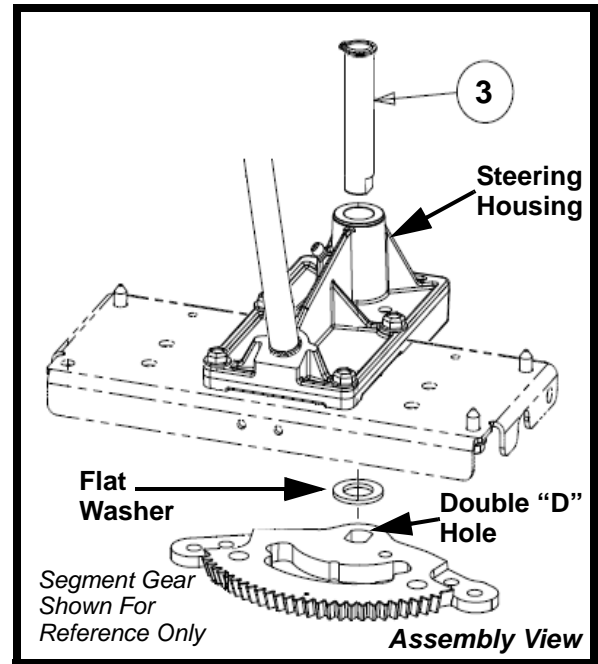

FIGURE 8
18. Install item #3 (738-05142) steering shaft into the front hole of the steering housing. See Figure 8.
19. Place the flat washer on top of the segment gear over the double "D" hole. See Figure 8.